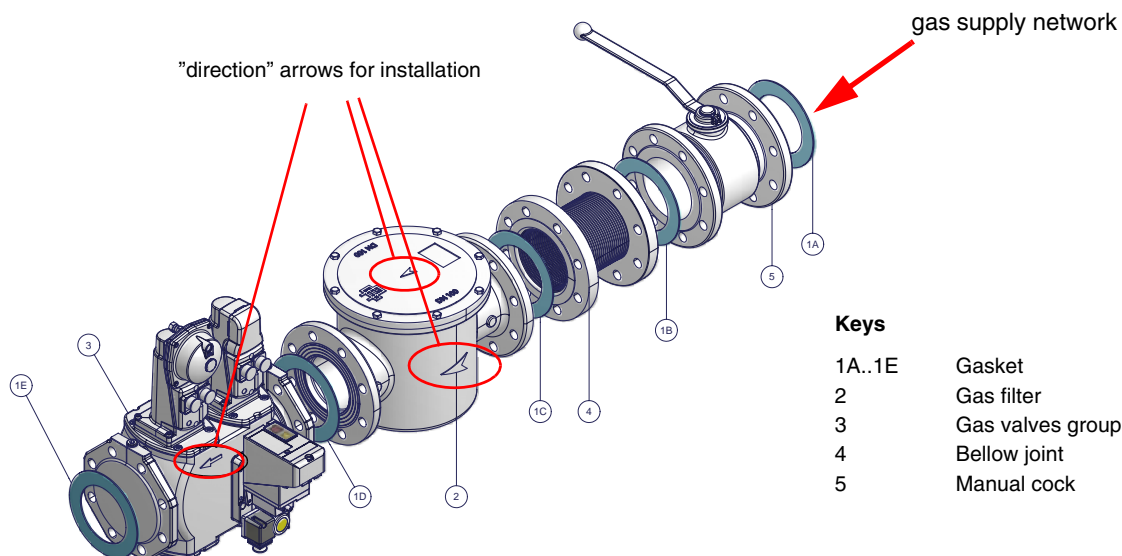

Fig. 5 - Example of gas train
**ATTENTION:** once the gas train is mounted according to the diagram on Fig. 5, the gas proving test must be performed, according to the procedure set by the laws in force.